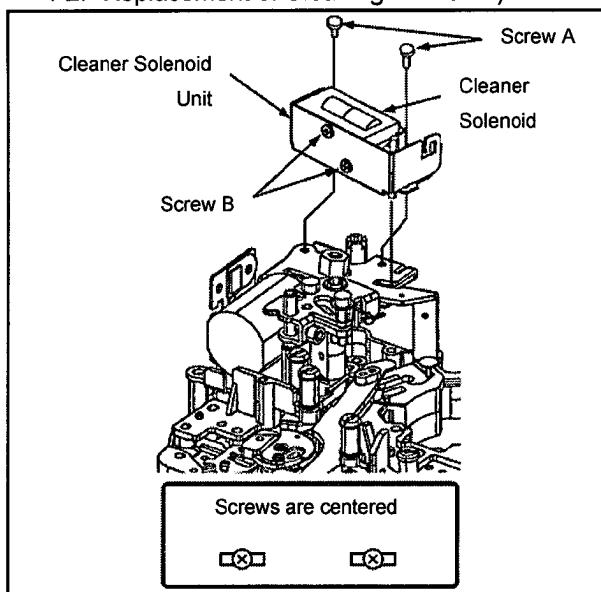

Fig. 4-9-1
2. Unscrew the 2 screws (A) as shown in Fig. 4-9-1 and remove the Cleaner Solenoid Unit.
3. Unscrew the 2 screws (B) as shown in Fig. 4-9-1 and 4-9-2 and remove the Cleaner Shield Case.